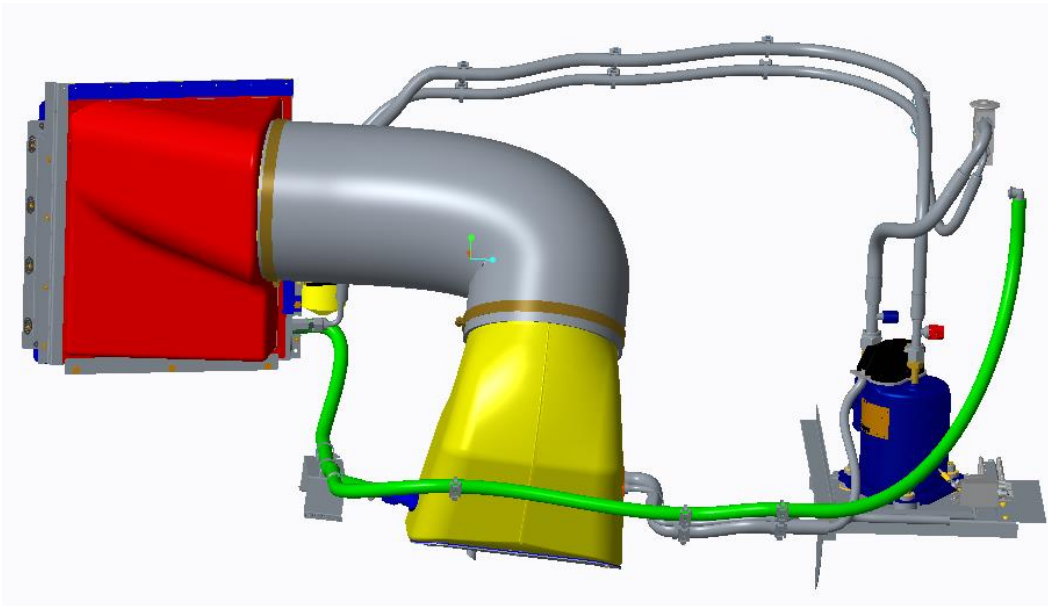
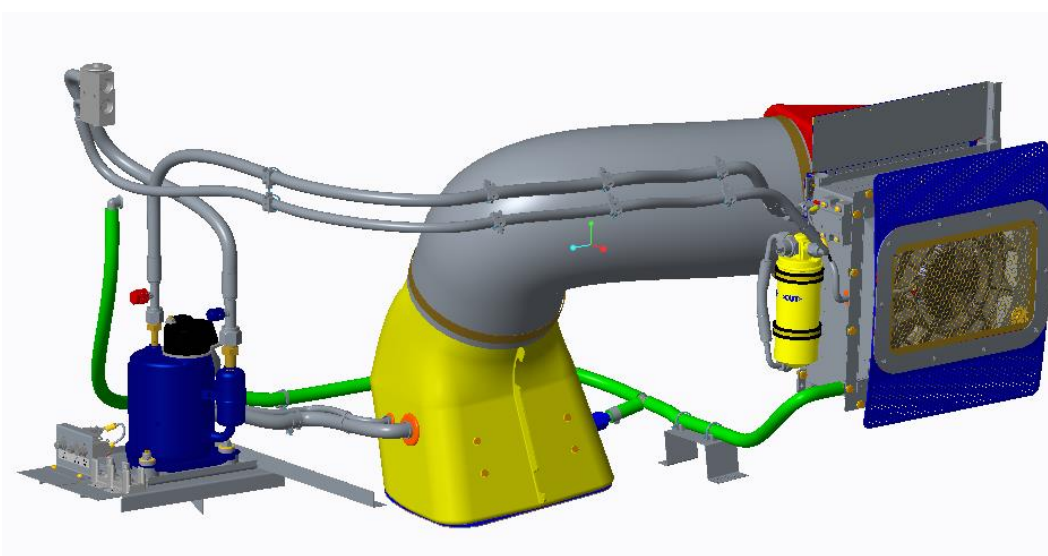

Figure 26 – Hot Side Connections
Figure 27 – Hot Side Connections
- 4) Bond TM3S8-C tie mounts to the sidewall as required directing the hoses and electrical wires to the proper connection. See Figure 26 and Figure 27.